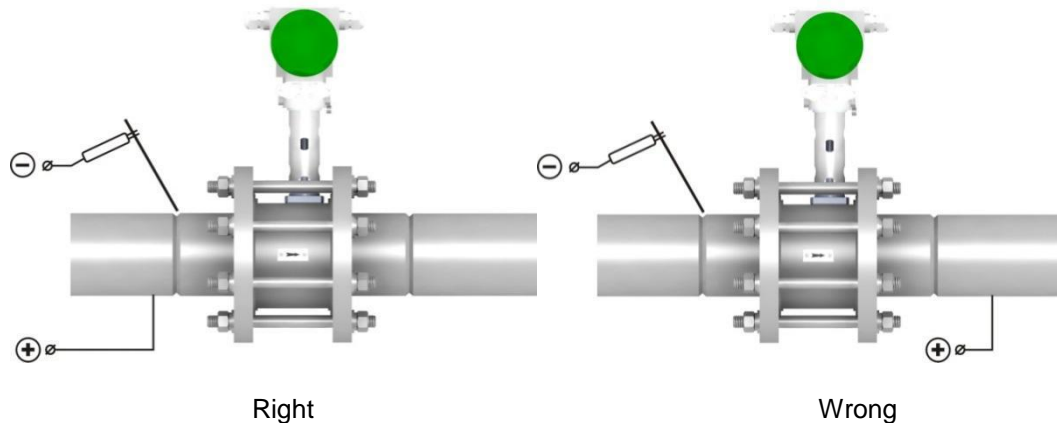

Fig.2.11 - Power supply connection for arc-welding
- for arc-welding power unit shall connected so that current does not flow through the flow meter - see fig.2.11.